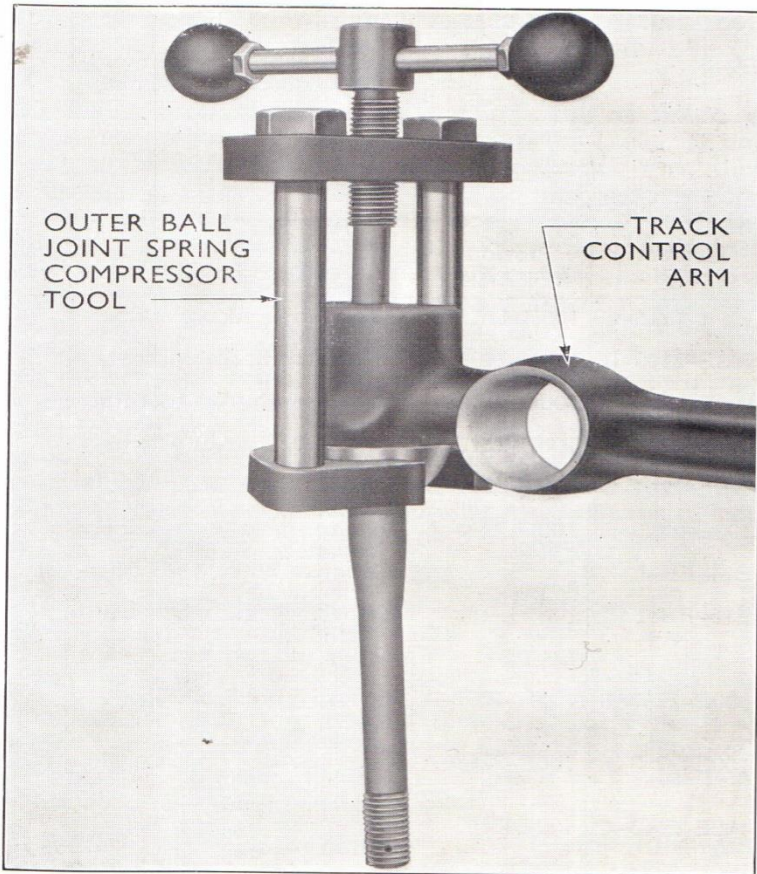

Fig. 299
- 2 Fit tool No. A/EH.3028 (see Fig. 299) and turn the centre screw until the spring retaining plate is depressed against the action of the spring.